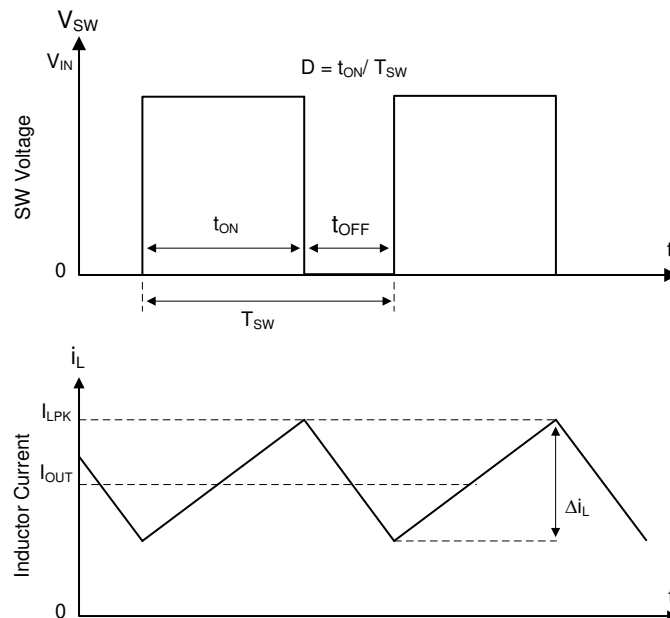

**Figure 7-1. SW Node and Inductor Current Waveforms in Continuous Conduction Mode (CCM)**
The following operation description of the TPS563300 refers to the functional block diagram and to the waveforms in Figure 7-1. The TPS563300 is a synchronous buck converter with integrated high-side (HS) and low-side (LS) MOSFETs (synchronous rectifier). The TPS563300 supplies a regulated output voltage by turning on the HS and LS NMOS switches with controlled duty cycle. During high-side switch on time, the SW pin voltage swings up to approximately  $V_{IN}$ , and the inductor current,  $i_L$ , increases with linear slope  $(V_{IN} - V_{OUT}) / L$ . When the HS switch is turned off by the control logic, the LS switch is turned on after an anti-shoot-through dead time. Inductor current discharges through the low-side switch with a slope of  $-V_{OUT} / L$ . The control parameter of a buck converter is defined as Duty Cycle  $D = t_{ON} / t_{SW}$ , where  $t_{ON}$  is the high-side switch on time and  $t_{SW}$  is the switching period. The converter control loop maintains a constant output voltage by adjusting the duty cycle  $D$ . In an ideal buck converter where losses are ignored,  $D$  is proportional to the output voltage and inversely proportional to the input voltage:  $D = V_{OUT} / V_{IN}$ .